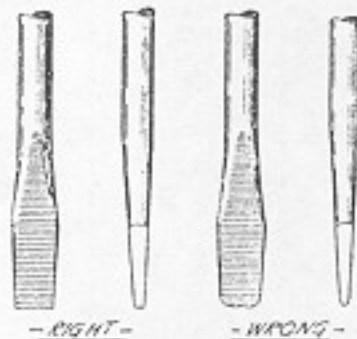

Fig. 289. Right and wrong shapes of the end of a screw driver.
3. A screw driver or a screw-driver bit and brace is used for driving or turning the screw into the wood (Figs. 288 and 290). The end of the screw driver should fit the slot in the screw snugly and should be of the same width as the head of the screw. It is extremely important that the sides and end of the screw driver are flat (Fig. 289). A screw driver with rounded or beveled sides will climb out of the slot of the screw and damage it so that the screw cannot be turned. A worn screw driver is ground on an emery wheel.